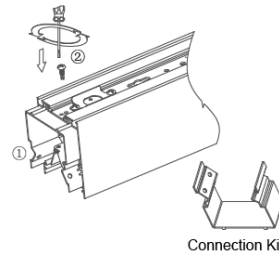

Fig. 15
2. Insert the connection kit on the end of the fixture. Connect it with the supplied screws. (Fig. 15)